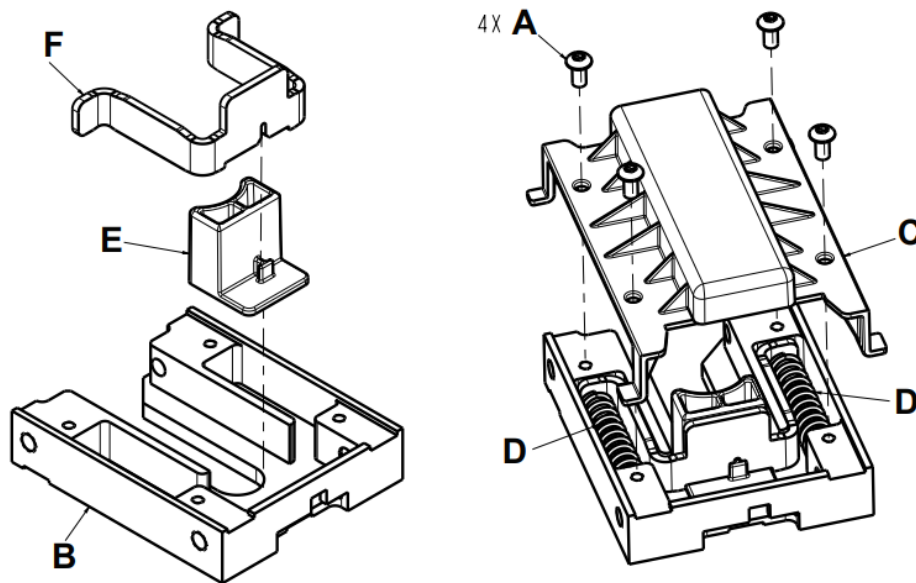

Figure 5 – Replacing the head end plunger
2. Using a T27 Torx driver, remove the four screws (A) that secure the pin enclosure (C) to the head end interface (B) (Figure 5). Save the screws.
3. Remove and save the two plunger springs (D) (Figure 5).
4. Remove and save the plunger bracket (F) (Figure 5).
5. Remove and discard the plunger (E) (Figure 5).